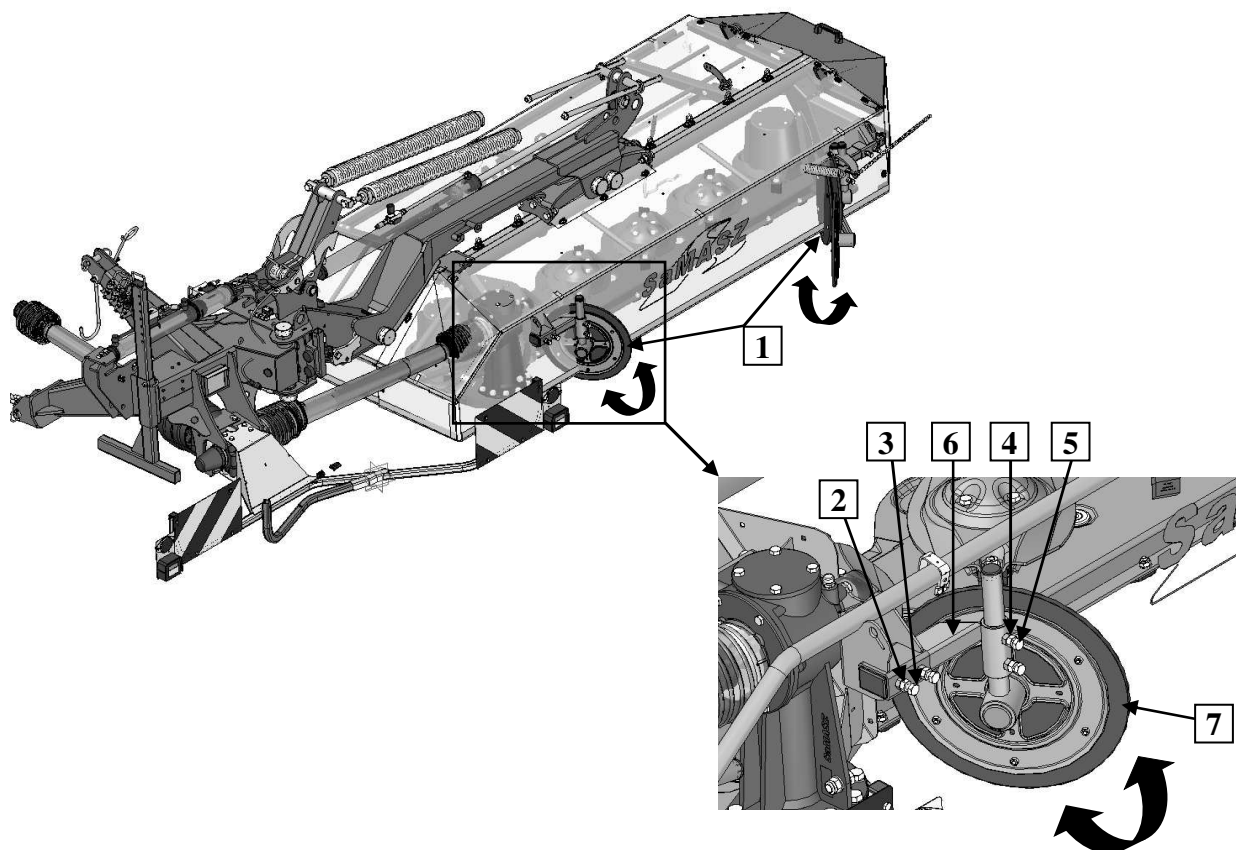

Fig. 23. Adjustment of swath guides: 1 - swath guide, 2 - locknuts, 3- arm adjustment screws, 4 - locknuts, 5- shield adjustment screws, 6- guide arm, 7- shield
Swath width is adjusted with swath guides mounted on the 3-point linkage frame of the cutterbar (**Fig. 23**). In order to adjust the guide, the following should be performed (for: **KT 261 (H)**, **KT 301 (H)**, **KT 341 (H)**):
- ❑ loosen locknuts (2) and screws (3),
- ❑ shift the guide arm (6),
- ❑ tighten screws (3) and locknuts (2),
- ❑ loosen locknuts (4) and screws (5),
- ❑ then adjust height and shield angle (7),
- ❑ tighten screws (5) and locknuts (4).
In order to set swath width, adjustment of swath guides (1) should be performed (**Fig.23**) (for: **KT 261 S/SL (H)**, **KT 301 S/SL (H)**):
- ❑ loosen eye screw (2) of the swath guide,
- ❑ set the swath guide (1) as needed,
- ❑ tighten screw (2),
- ❑ even spreading of swath might be adjusted with wheels (3) the same as it is performed with guides.